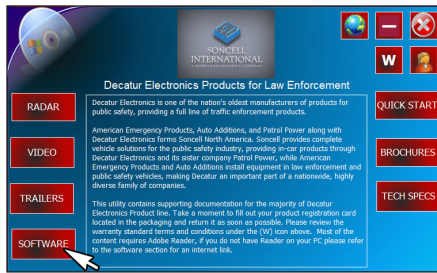

Figure 3.2c
- Click on the "Software" button as shown in Figure 3.2c.